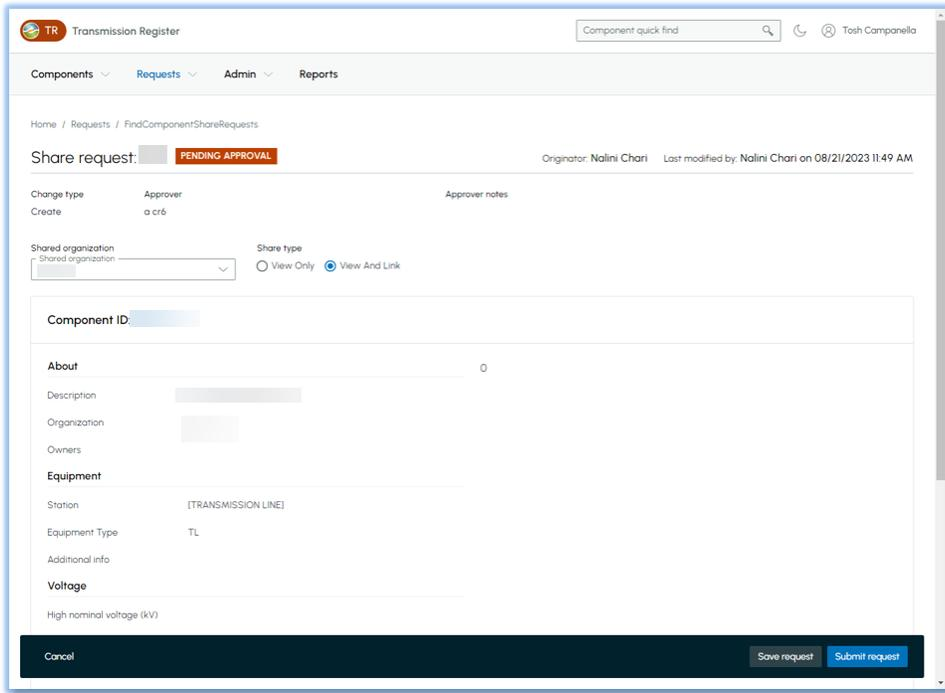

Figure 18 Share Requests Page
- 3) If the share needs to be modified, click the Modify Share hyperlink and the screen shown in Figure 18 loads.